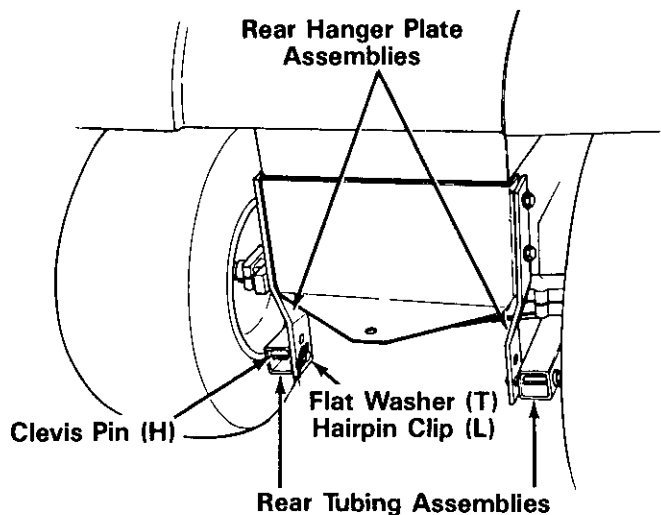

FIGURE 10
10. Attach the rear tubing assemblies to the bottom hole in the rear hanger plate assemblies. Secure with clevis pins (H), flat washers (T) and hairpin clips (L). See figure 10.